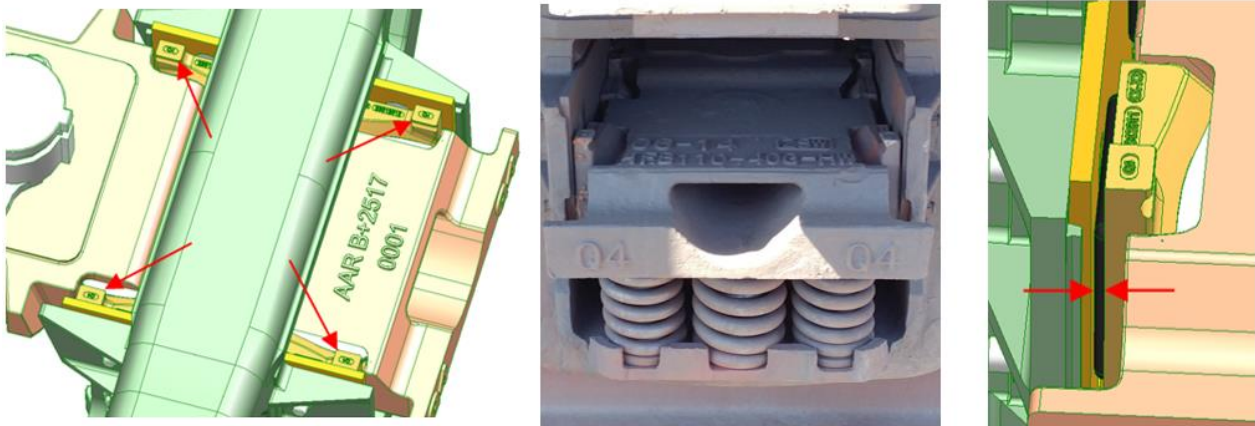

Figure 11: Proper Installation of Q4 Wedges and Springs
13. Ensure all the wedges and springs are seated properly (Figure 11).
4. All wedges must be present and have the proper orientation. To confirm the correct orientation, check that the raised tabs on the wedges are away from the side frame centerline (Figure 11).
5. All wedges must have a friction pad present. The pad separates the main body of the wedge casting from the column wear plate (Figure 11)